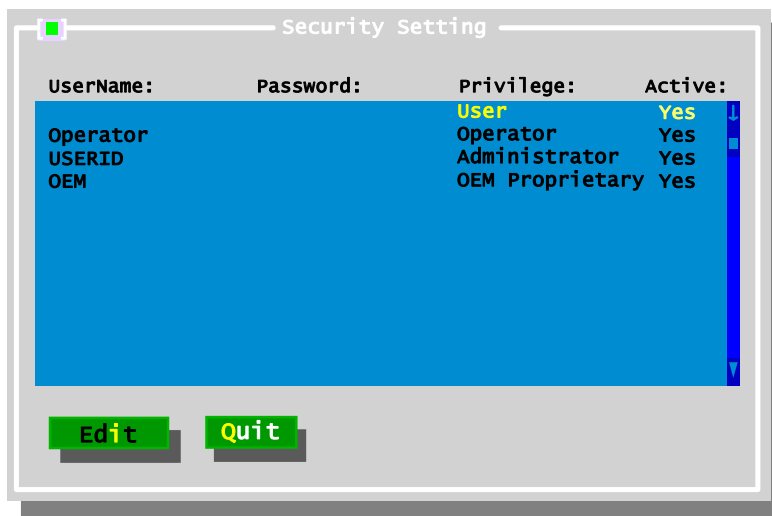

Figure 2-4 Security Settings screen
8. Press F10 to enter the menu and select **Security** to view or modify the Login settings. The Security Setting screen is displayed. See Figure 2-4 on page 14.